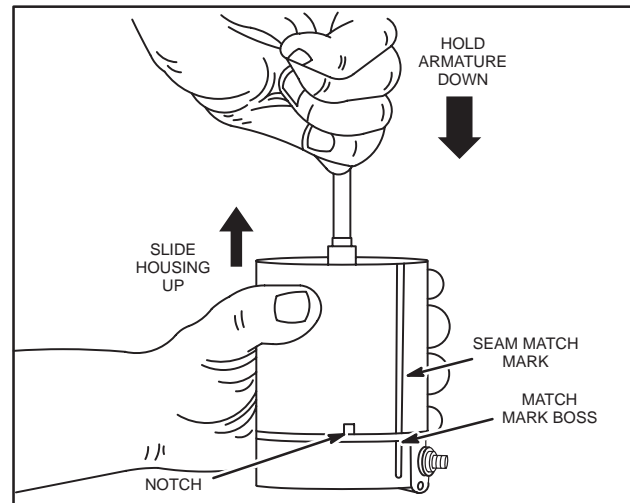

Fig. 36
6. While pushing down on armature and brush end cap, slide starter housing down until large notch indexes with insulated terminal boss, Fig. 36. DO NOT damage magnets in starter housing.